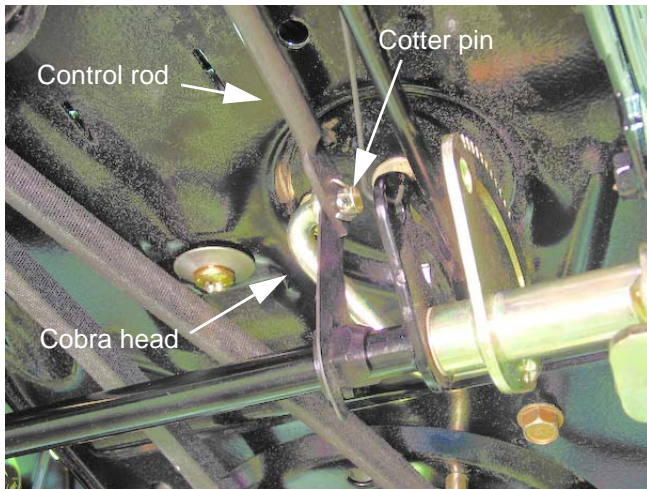

Figure 5.29
2. Remove and discard the cotter pin that holds the tensioner pulley control rod and the tie plate to the "cobra-head" arm on the drive control pedal shaft. See Figure 5.29.